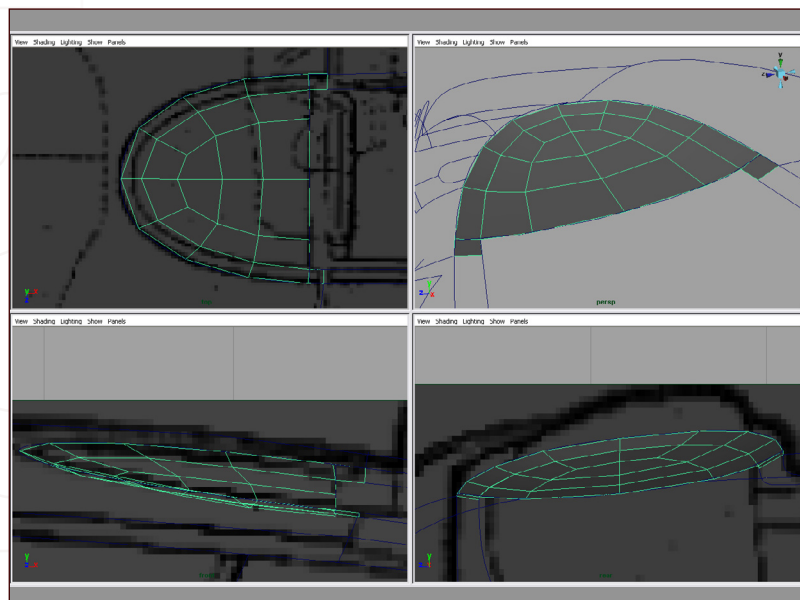

Fig 27
21. Shape these new verts until you get something similar to **Fig27**. The aim here is to keep the shape fairly circular with a uniform dip towards the centre.